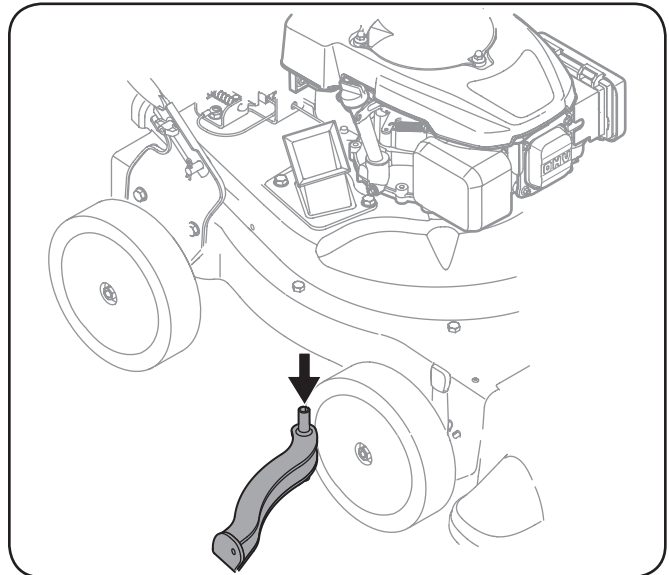

Figure 6-4
7. Remove and clean the screen by scraping or washing with water. See Figure 6-4.